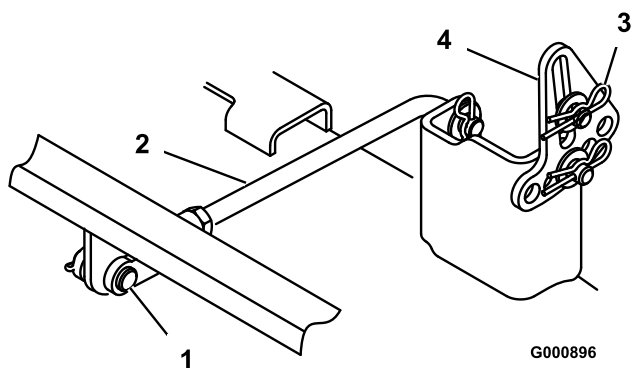

Figure 47
5. Remove the hairpin cotter and clevis pin from the rear trunion rod (Figure 47) on each side of the mower.
6. Remove the hairpin cotter and washer at the mower leveling brackets (Figure 47) on each side of the mower. Note which hole the leveling bracket is mounted in for future installation. Slide the brackets off of the mounting pin.
5. Attach the rear trunion rod to the tractor with the clevis pin and hairpin cotter (Figure 47) on each side of the mower.
6. Slide the leveling brackets onto the mounting pins and secure them with the washers and hairpin cotters (Figure 47).